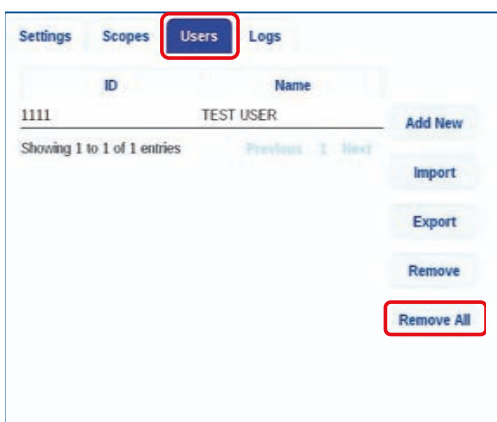

Fig. 61
3. Press the **Users Tab** and then press the 'Remove All' button (Fig. 61).